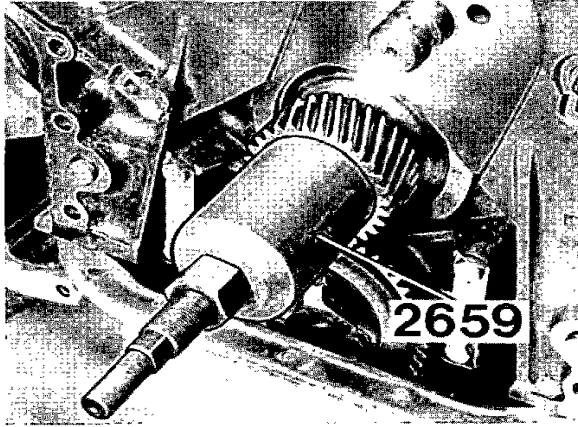

Fig. 67. Fitting the crankshaft gear
1. Check that the crankshaft key is fitted. Fit the crankshaft gear using tool 2659 (fig. 67).